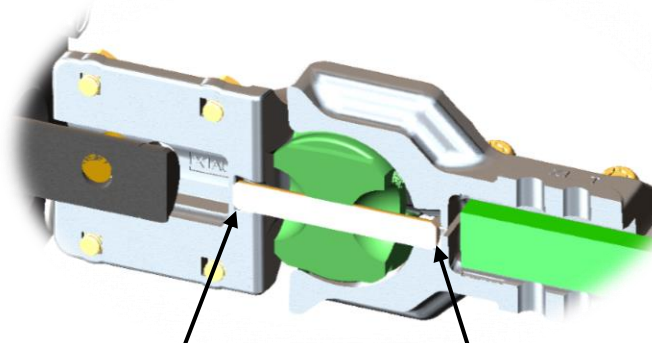

Figure 7-2: A section-view of the couplers when fully engaged. The arrows indicate the locations where the alignment rods should be fully seated.
- Starting with the final drive gearbox side, make sure the coupler on the drive shaft has its lock nuts facing downwards for the ease of installation. Insert the coupler load arm opening into the grooved opening on the puck as shown in Figure 7-1. Push the coupler in until fully engaged with the puck. Make sure the alignment rod is also properly seated within both sides of the couplers as indicated in Figure 7-2.
Once the coupler and puck openings are aligned, push the coupler on the motor shaft towards the other coupler to engage the coupler load arms and the puck as shown in Figure 8-2. Make sure the alignment rod is fully seated in the couplers on both ends in the same way as shown in Figure 7-2. Re-install the 3/8" bolt through one of the holes on the coupler's face and the through hole on the center drive shaft, and then engage the 3/8" lock nut into the thread. Stop turning when thread interference begins. **DO NOT TIGHTEN DOWN LOCK NUT AT THIS POINT.**